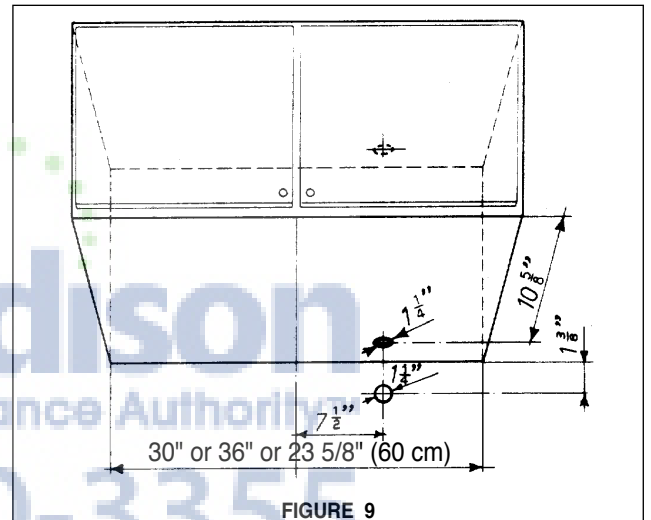

FIGURE 9
5. Determine the proper location for the Power Supply Cable. Both possible locations are given in FIGURE 9. Use a 1 1/4 inch Drill Bit to make this hole. Run the Power Supply Cable. Use caulking to seal around the hole. DO NOT turn on the power until installation is complete.